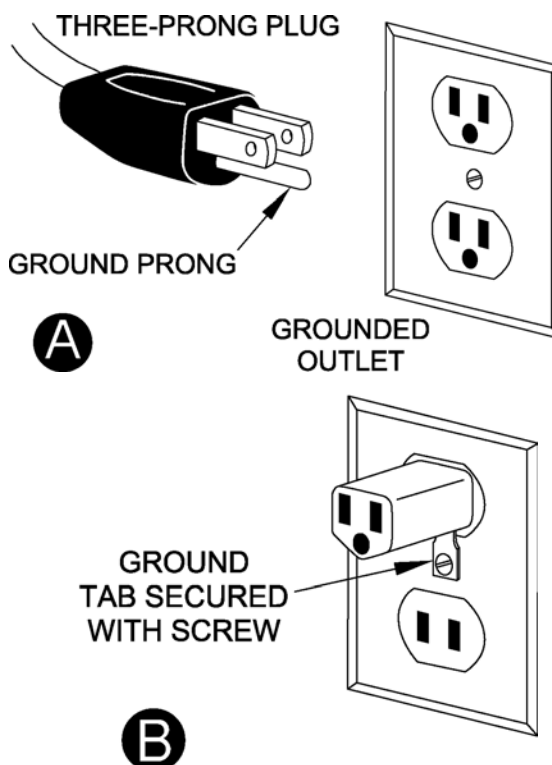

Figure 9
Referring to Figure 9: As received from the factory, your mortiser is ready to run at 115-volt operation. This mortiser is intended for use on a circuit that has an outlet and a plug that looks like the one illustrated in (A). A temporary adaptor, which looks like the adaptor shown in (B), may be used to connect this plug to a two-pole receptacle if a properly grounded outlet is not available. The temporary adaptor should only be used until a properly grounded outlet can be installed by a qualified electrician. This adaptor is not applicable in Canada. The green colored rigid ear, lug, or tab, extending from the adaptor, must be connected to a permanent ground such as a properly grounded outlet box.